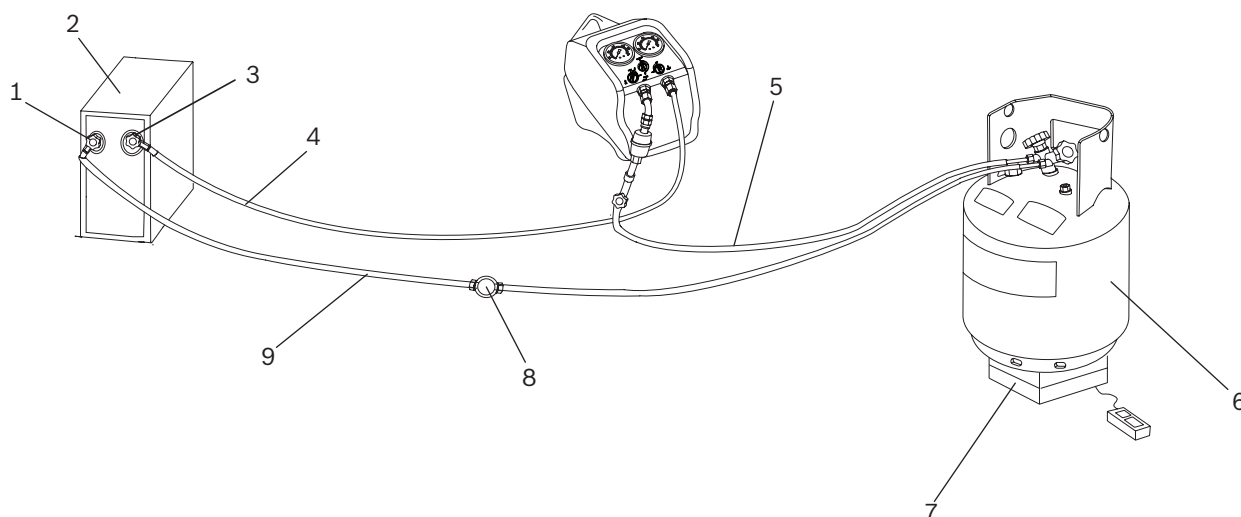

Fig. 4: Push / pull recovery
4. Connect the RG8.0 / RG4.0 to the system being serviced according to Fig. 4. Follow the order outlined below. Use only designated refrigerant hoses that meet local regulations. Because hoses must be switched in order to remove refrigerant from the system, it is necessary to use hoses with manual shutoff valves on both ends, and these instructions are written for such hoses.
- Connect a hose to the liquid port of an approved two-valve recovery tank and the other end to the high side (liquid) service port of the A/C or refrigeration system. It is beneficial to have a sight glass (Fig. 4, Pos. 8) in this hose to monitor liquid refrigerant flow.
- ⇒ Liquid refrigerant should begin to flow into the tank. This can be verified with the sight glass. Refer to Fig. 4, Pos. 8.